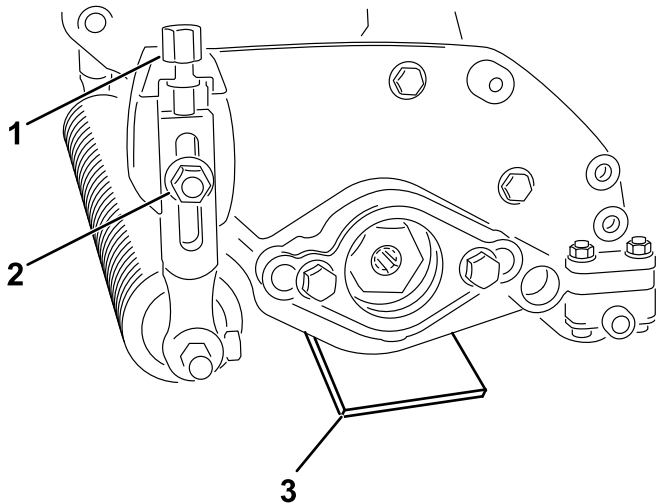

Figure 8
3. With the rollers contacting the level surface, loosen both flange nuts (Figure 8).
4. Rotate the height-of-cut adjusting bolts until both ends of the dethatcher are near the level surface (Figure 8).
2. Place a gauge bar, which is the thickness of the desired height of blade above ground, under each end of the dethatching unit (Figure 8).